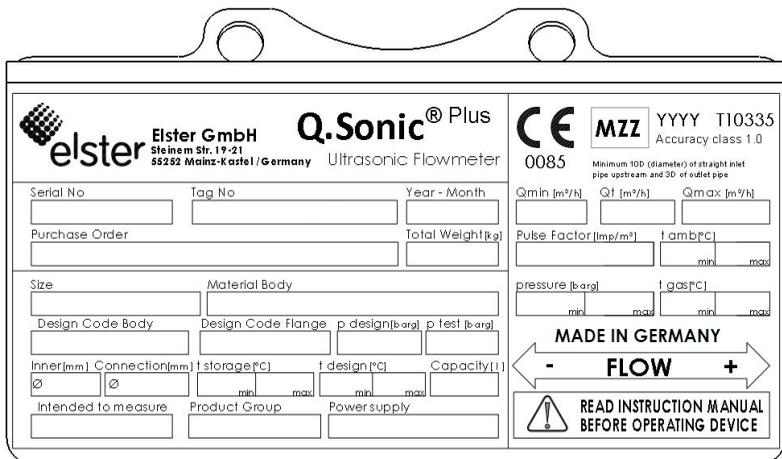

Figure 5-5: Example of a Q.Sonic^{plus} Main Plate
- The main (type) plate (see Figure 5-5, for an example of a Q.Sonic^{plus} main plate) provides information on mechanical design conditions as well as flow related information such as meter factor and range. If the UFM has been manufactured in accordance with the Measuring Instruments Directive (MID) the related certificate reference T10335 is mentioned in the top right corner of the main plate.